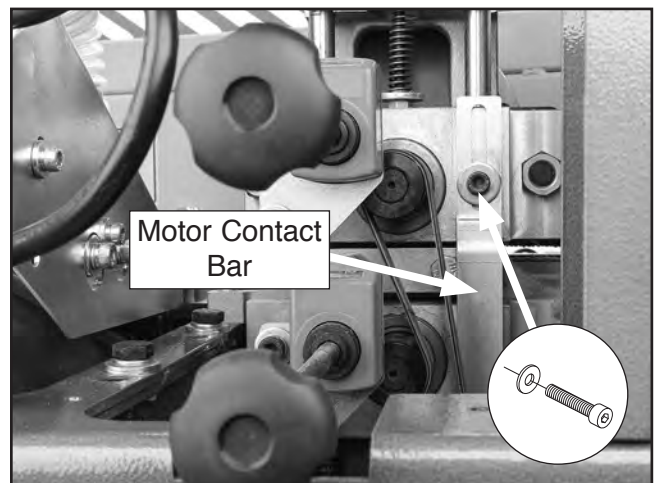

Figure 114. Location of motor contact bar.
8. Press down on motor slightly, making sure motor contact bar shown in **Figure 114** drops down and contacts motor, then tighten cap screw from **Step 4**.